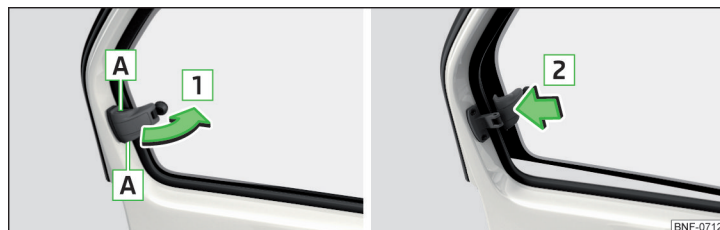

Fig. 34 Opening/closing rear windows
- To **open**, grasp the safety catch in recess  » Fig. 34.